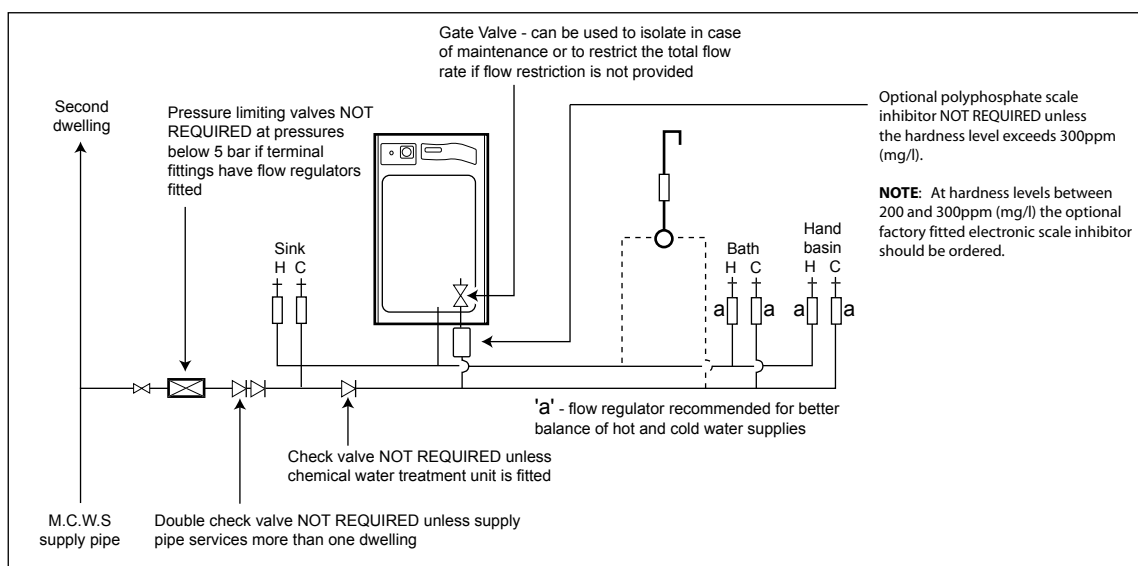

Figure 4.1 Typical hot and cold water distribution pipework in a dwelling
- (a) mCHP_BoilerMate is designed to be connected directly to the mains and fulfil the requirements of Water Byelaw 91 and therefore do not require a check valve to be fitted to the supply pipe. However, should ancillary equipment requiring a non-return valve, is to be fitted to the same mains supply as the BoilerMate, then this valve must not be fitted between the inlet of this mains supply to the property and the BoilerMate (see figure 4.1).